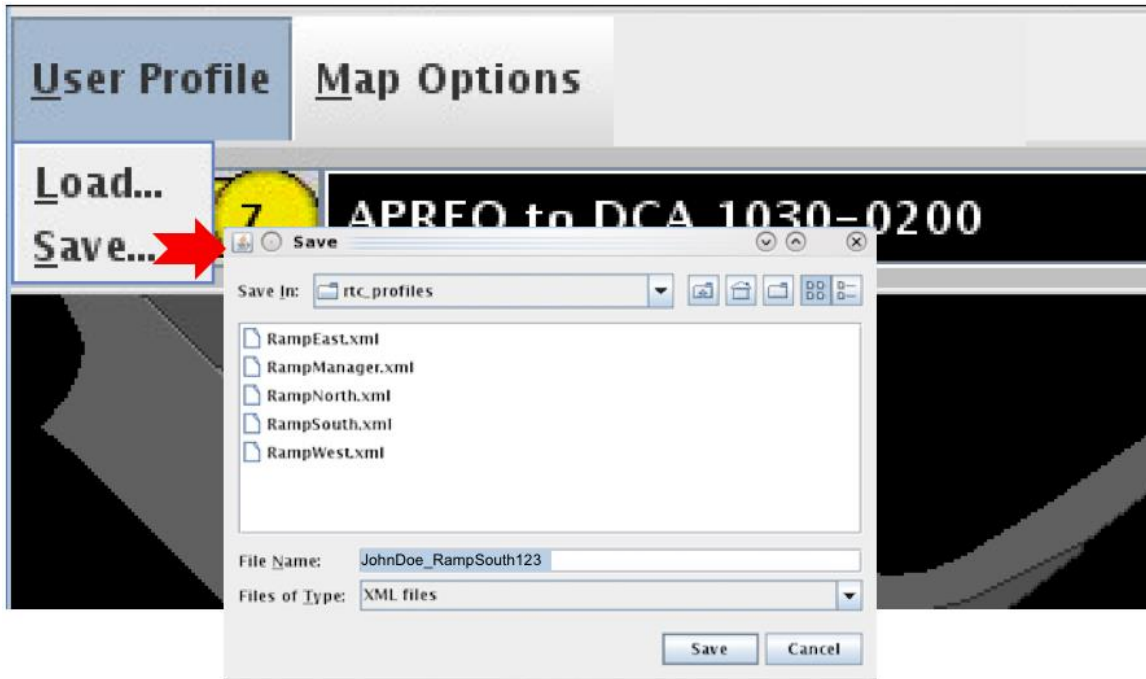

Figure 3.2. Save User Profile.
Step 1: Click on User Profile as shown in Figure 3.2 below.